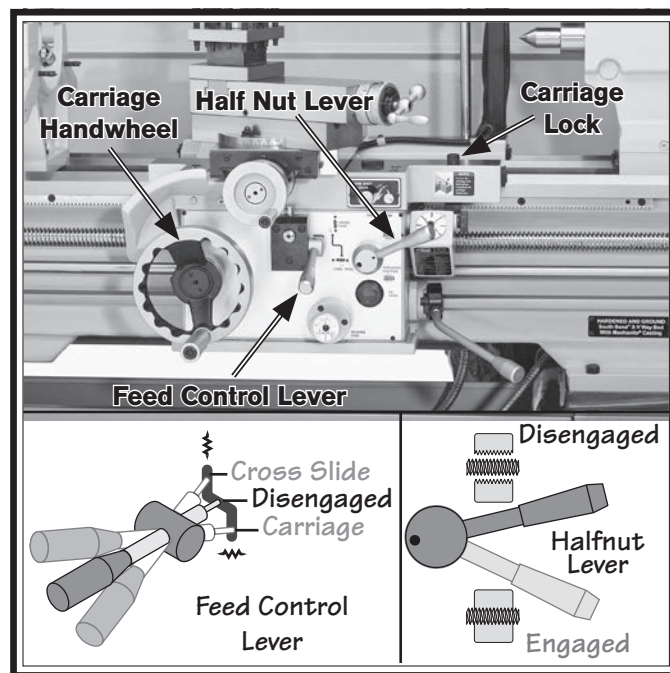

Figure 17. Carriage controls set for moving the carriage.
4. To further balance the load, loosen the carriage lock bolt (see **Figure 17**), disengage the half nut lever, disengage the feed control lever, then use the carriage handwheel to move the carriage next to the tailstock.